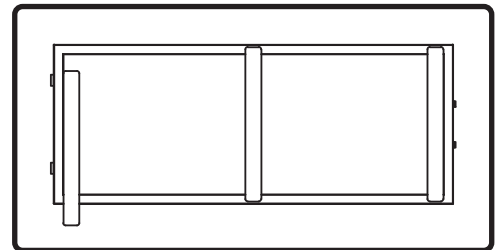

FIG. 1
2. Place filter bracket over charcoal filter and secure in place by tucking each end of bracket under the mesh grease filter frame. FIG. 1. Reinstall mesh grease filter.